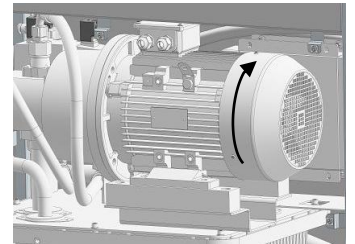

Fig. 20
- Open the front cover of the machine. Switch on the hydraulic system in menu "Manual Operation" to check the direction of rotation of the electric motor (fig. 20). The motor must rotate in the direction of the arrow. After checking, switch off the motor.